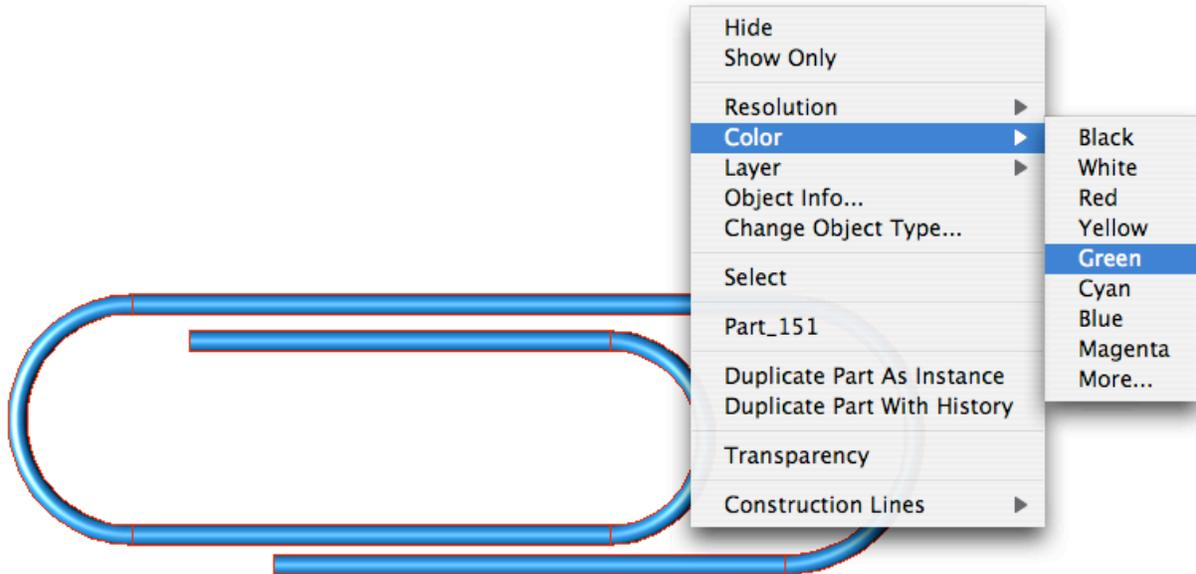

Fig 11. Right Click on any object to see a contextual menu of object related settings
- Try experimenting using the right-click contextual menu on your paper clip to change the color, resolution or transparency of the object. See Fig 11